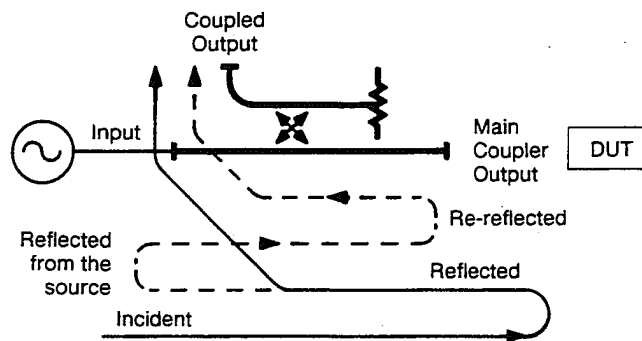

Figure 7-35. Source Match
**Source match in reflection measurements.** In a reflection measurement, the source match error signal is caused by some of the reflected signal from the DUT being reflected from the source back towards the DUT and re-reflected from the DUT (Figure 7-35). The built-in cal corrects for source match errors in reflection measurements, but only under the conditions stated at the beginning of this chapter. If the measurement setup does not meet the previously stated conditions, perform a reflection 1-port calibration to compensate for source match errors.